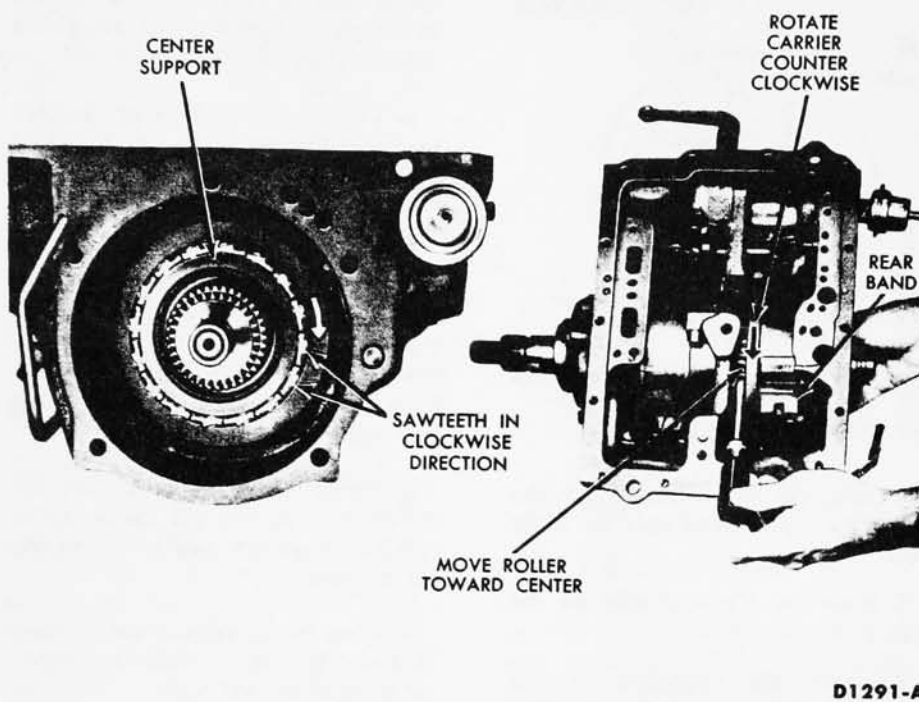

FIG. 22—Planetary Clutch Installed on Center Support
4. Install the planetary clutch on the center support with the "saw-teeth" of the clutch cage pointing in the clockwise direction as viewed from the rear (Fig. 22). Make sure that all rollers are in the cage.
positioned individually with a small screwdriver by pushing the rear of the rollers toward the center of the transmission and into the cam race (Fig. 22). Keep pressure applied to the carrier at all times.